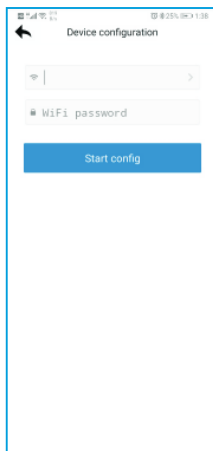
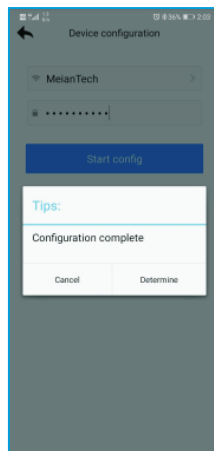

Fig. 5-7
Fig. 5-8
Step 3: Enter the name and password of the WiFi to be connected (Fig. 5-7), click "Start Config", and click Host when the host screen displays  "Configuration complete" (Fig. 5-8).